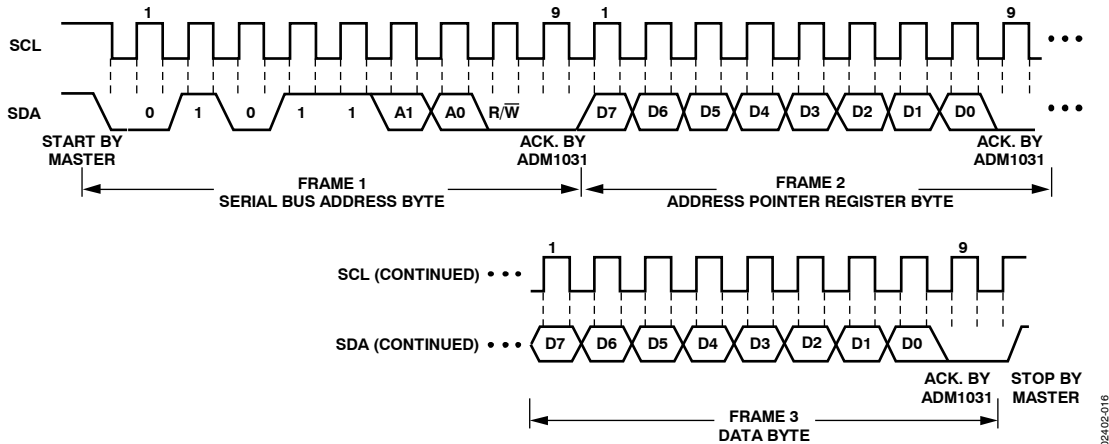
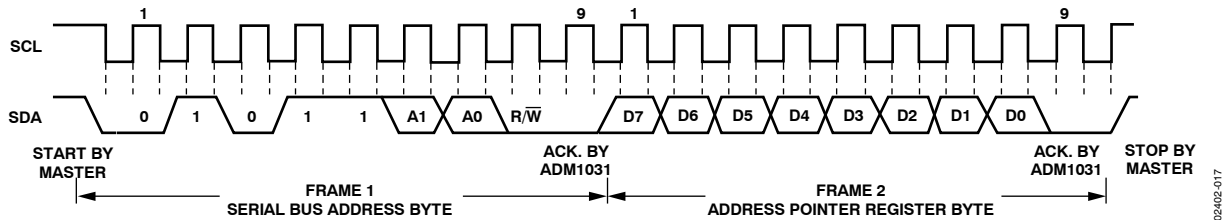
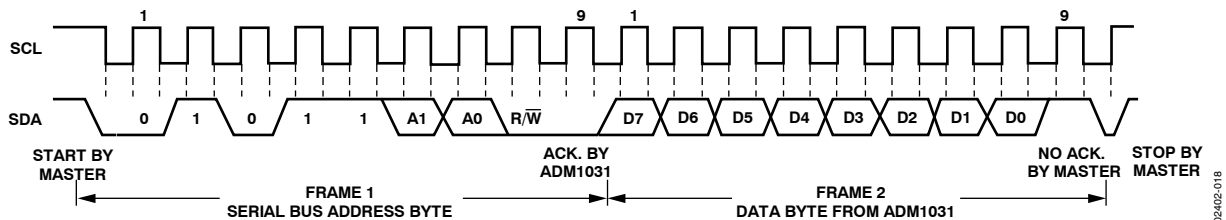

Figure 16. Writing a Register Address to the Address Pointer Register, then Writing Data to the Selected Register
Figure 17. Writing to the Address Pointer Register Only
Figure 18. Reading Data from a Previously Selected Register
This is illustrated in Figure 16. The device address is sent over the bus followed by R/W set to 0. This is followed by two data bytes. The first data byte is the address of the internal data register to be written to, which is stored in the address pointer register. The second data byte is the data to be written to the internal data register.
desired data register. This is done by performing a write to the ADM1031 as before, but only the data byte containing the register address is sent, as data is not to be written to the register. This is shown in Figure 17.
A read operation is then performed consisting of the serial bus address, R/W bit set to 1, followed by the data byte read from the data register. This is shown in Figure 18.
2. If the address pointer register is known to be already at the desired address, data can be read from the corresponding data register without first writing to the address pointer register, so Figure 17 can be omitted.
- In Figure 16, Figure 17, and Figure 18, the serial bus address is shown as the default value 01011(A1)(A0), where A1 and A0 are set by the three-state ADD pin.